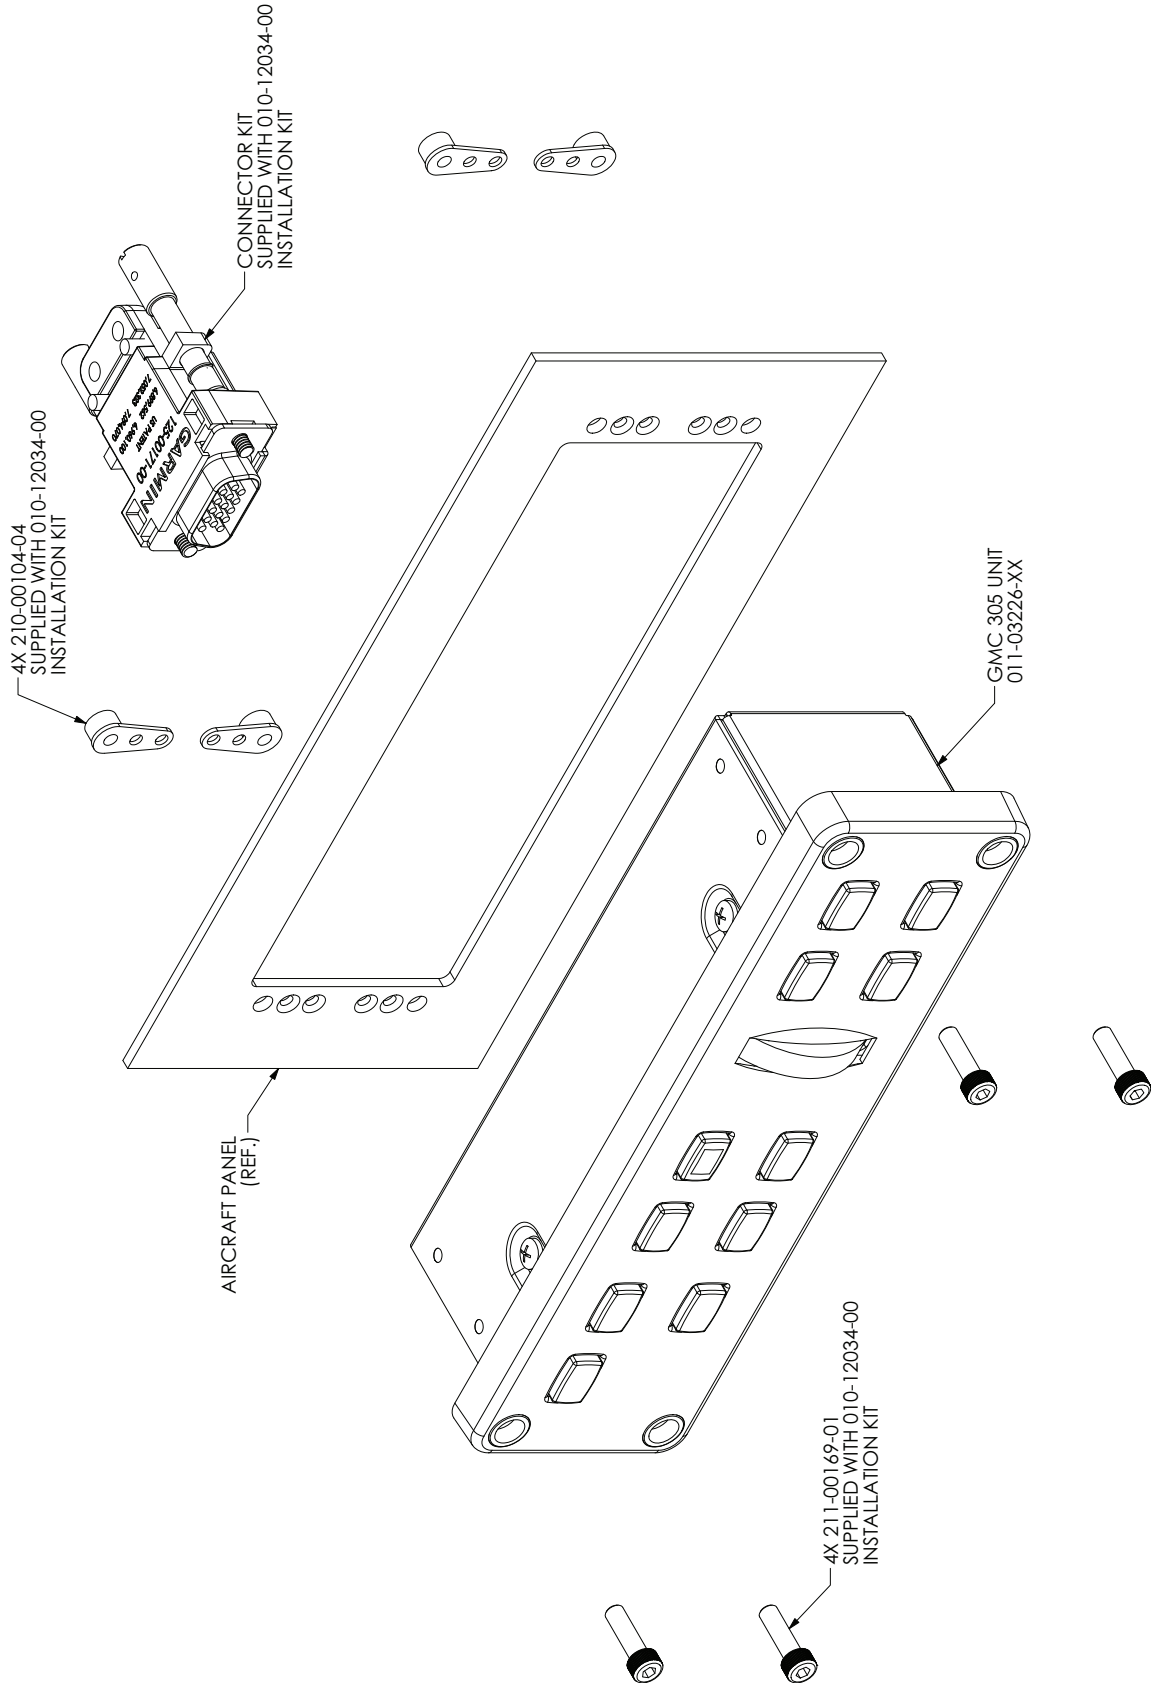

Figure 10-3 GMC 305 Installation Drawing
1. Drill holes in panel to locate nut plates and LRU (see Figure 10-5, Figure 10-3, and Figure 10-4).